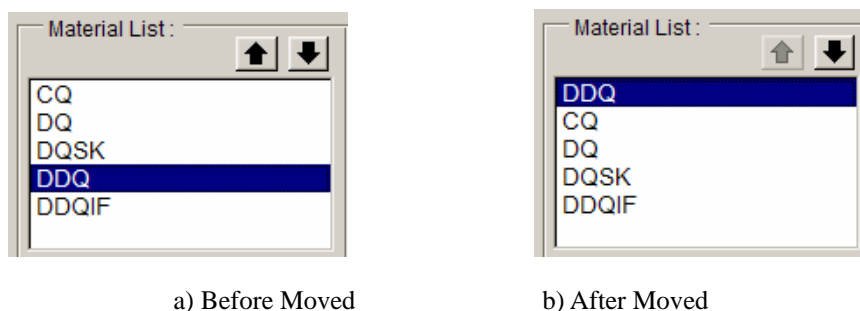

Figure 8.2.36 Change the position of material in material list
- : The user needs to pre-select a material from the material list. Then, click those two buttons to change the position of the material in the list. Refer to the Figure 8.2.36 for an example.